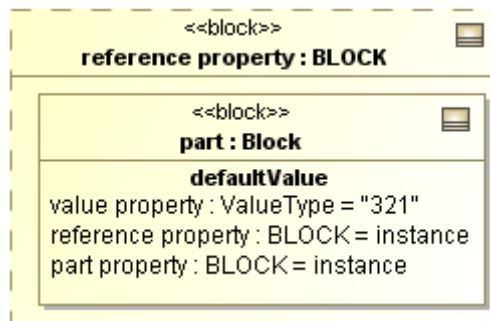

Figure 70 -- defaultValue Compartment with Slot Types
2. If you select **Name** or **Qualified Name**, the slot types will be displayed (Figure 70).